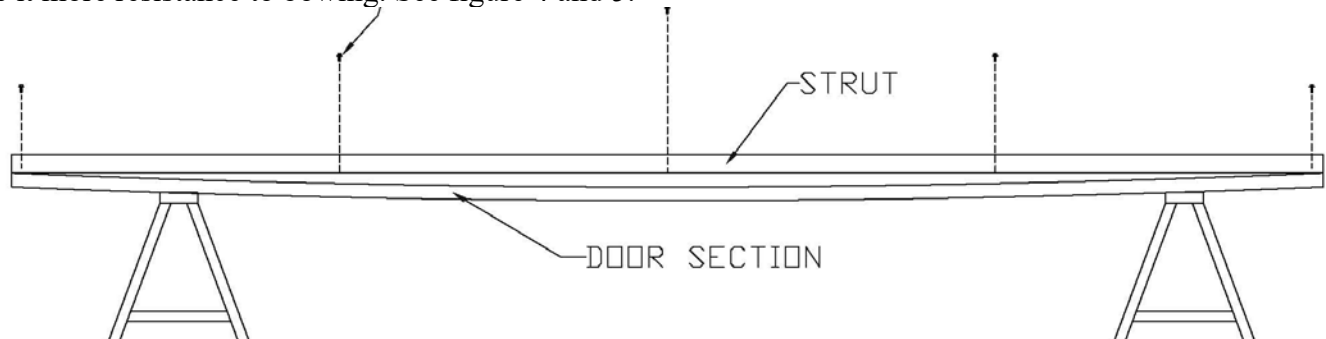

Figure 4
Step 3: (con.) If your door is 18' wide the first strut should be installed now. With the bottom section face down on the saw horses and the hinges and bottom corner brackets installed, position the strut just below the hinges. Attach the strut at each vertical stile with the self drilling $\frac{1}{4}$ " x $\frac{3}{4}$ " silver "TEK" screws. Attach each end of the strut first and work toward the center, allowing the center of the section to sag. This will stress the section and give it more resistance to bowing. See figure 4 and 5.